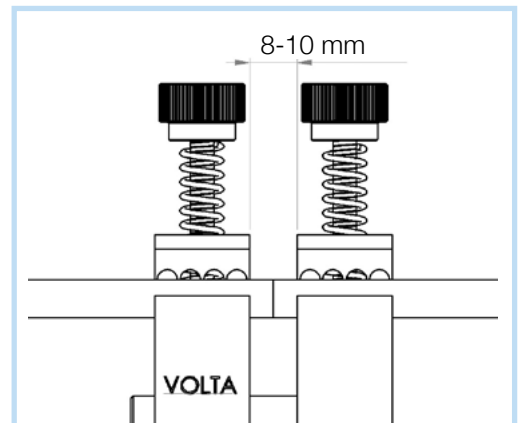

Fig. 14
3. Push to open the clamp (6) and place the belt edges so that the ends are touching approximately at the centre of the pliers gap (Fig. 14).
4. Release the clamp and allow the spring load to lock the belt ends in place. Adjust the knurled nut (18) if needed.